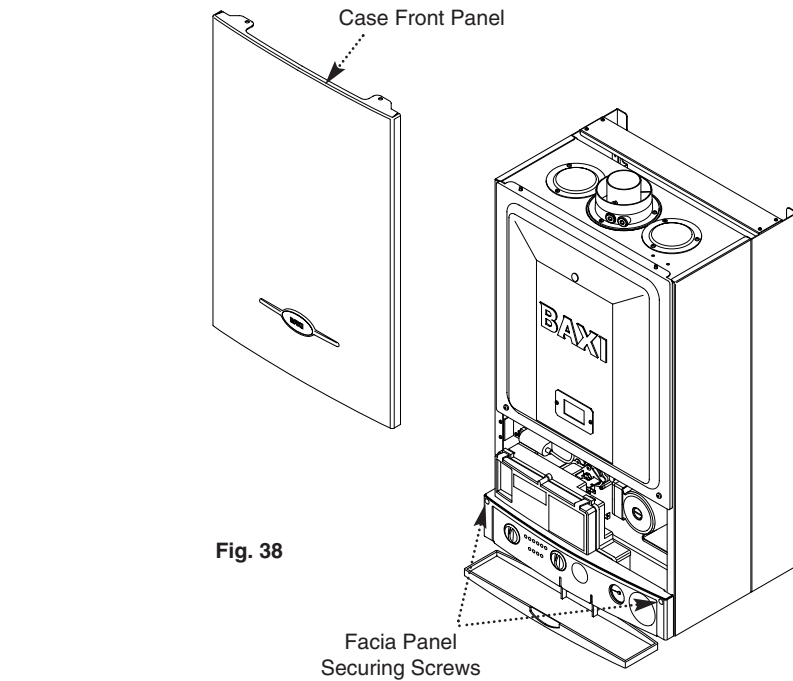

Fig. 38
5. Slacken the screws securing the fascia panel. Lift the outercase panel so that its securing tabs are clear of the fascia. Remove the panel (Fig. 38).